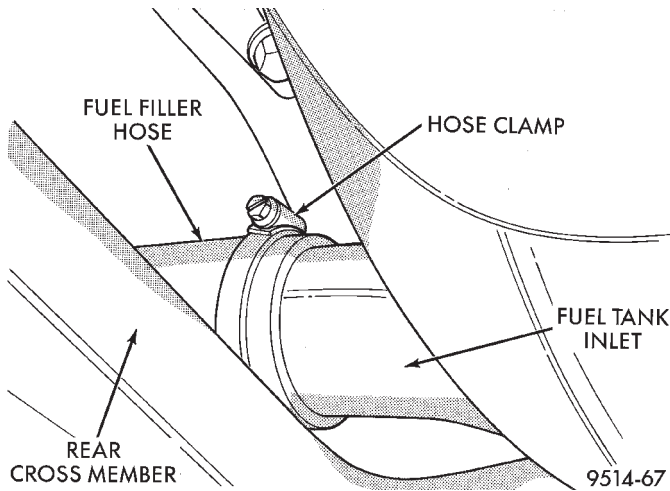

Fig. 33 Fuel Filler Hose Clamp
- (9) Disconnect fuel tank from rubber fill hose (Fig. 33).